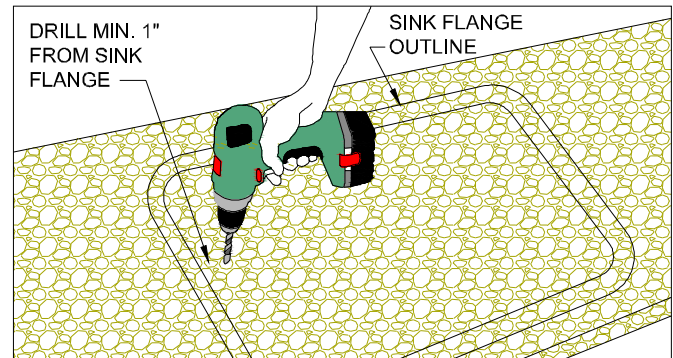

Figure 17A
- Drill a $\frac{3}{8}$ " or larger pilot hole approximately 1" from inside edge of sink flange. (FIG. 17A)